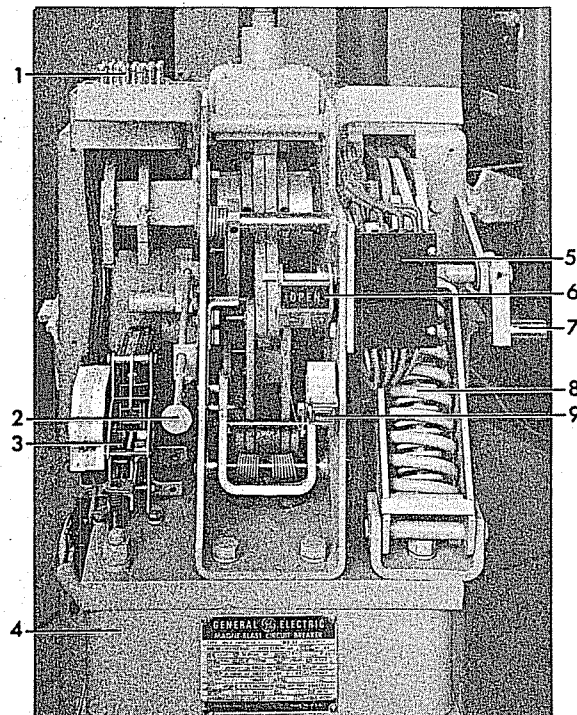
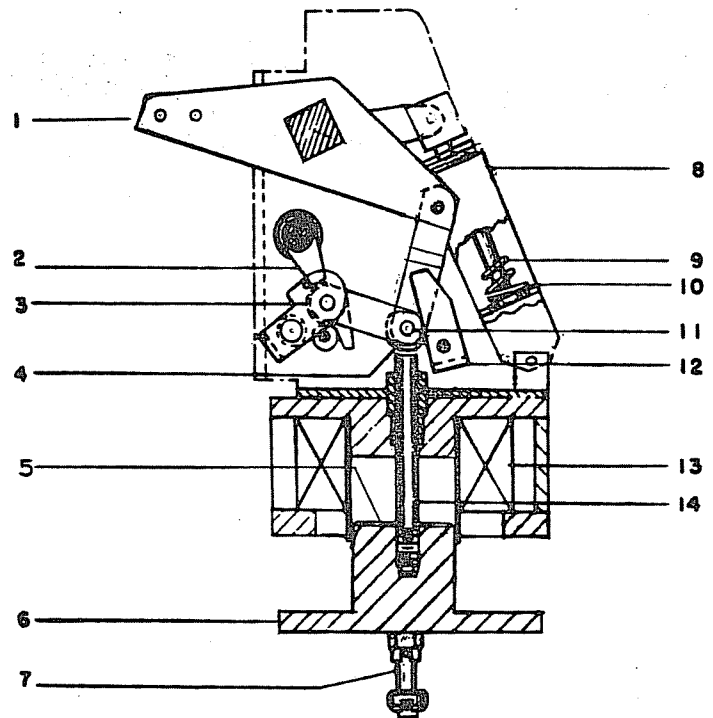

Figure 2 (8024599) MS-13 Operating Mechanism
Figure 4 (0137A7682) Cross Section of MS-13 Operating Mechanism in the Open Position
The operating mechanism can be either a type MS-13 solenoid mechanism or a type ML-11 stored energy mechanism. Both mechanisms are designed to give high speed closing and opening. All secondary connections from the breaker to the metal-clad unit are made through the coupler, (1) Figure 2.
The closing solenoid of the type MS-13 mechanism operates on d-c voltage only as indicated on the breaker nameplate. For a-c voltage closing, rectifiers mounted in the metal-clad unit are used to supply the direct current on which the closing coil operates. Closing operations are controlled electrically from the metal-clad unit and remote location. The trip solenoid will operate on a-c or d-c voltage as indicated on the breaker nameplate. Opening operations are controlled either electrically from the metal clad unit and remote location, or mechanically by the manual trip lever (2) Figure 2 on the breaker.
A positive interlock (7) Figure 2 and interlock switch (7) Figure 10, are provided between the breaker and metal-clad unit to prevent raising or lowering of the breaker in the unit while in a closed position and to prevent a closing operation when the breaker is not in either the fully raised or lowered position.
As the main contacts of the control device close, the breaker closing coil is energized. This raises the armature (6) Figure 4 which in turn lifts the closing roller (4) through plunger (14). This motion is transmitted through the mechanism linkage, and rotates the main crank (1), closing the breaker contacts. As the armature reaches the end of its travel, the prop (12) rotates beneath the pin (11) latching the breaker in the closed position. Through out the closing operation the mechanism is trip-free at all times.
The breaker can be opened either electrically by energizing the trip coil (1) Figure 25 or manually by pushing the trip lever (2) Figure 2. In each method the trip latch (2) Figure 4 is rotated off the trip latch roller (3) permitting the operating mechanism linkage to collapse. The energy stored in the opening springs is released to provide the required opening speed for successful interruption of the circuit. During this operation the trip coil circuit is de-energized, and upon completion of the opening operation, the operating mechanism is returned to its normal position, ready for closing.
If the trip coil circuit is energized while the breaker is closing, the trip armature will force the trip latch (2) Figure 4 away from the trip roller (3) causing the mechanism linkage to collapse and the breaker to re-open. The closing armature (6) completes its closing stroke, the closing coil is de-energized at the end of the stroke and the armature is returned to its original position by gravity.
Refer to Figure 7, when the breaker is closed the stationary primary contacts (1) should rise from  $1/4"$  to  $5/16"$ . Before checking this dimension be sure the mechanism is re-set so that the prop pin (11) Figure 4 is resting on the prop. To obtain the proper contact adjustment, open the breaker and, referring to Figure 8, loosen the check nut (4) and turn the adjusting nut (3). Screwing up on the adjusting nut will decrease the primary contact wipe, down will increase it. Tighten the check nut, close the breaker and recheck the wipe. With the primary contact wipe correctly adjusted, the clearance between the contact arm (6) Figure 7 and the buffer block (3) should be  $1/16"$  or greater when the breaker is fully closed.